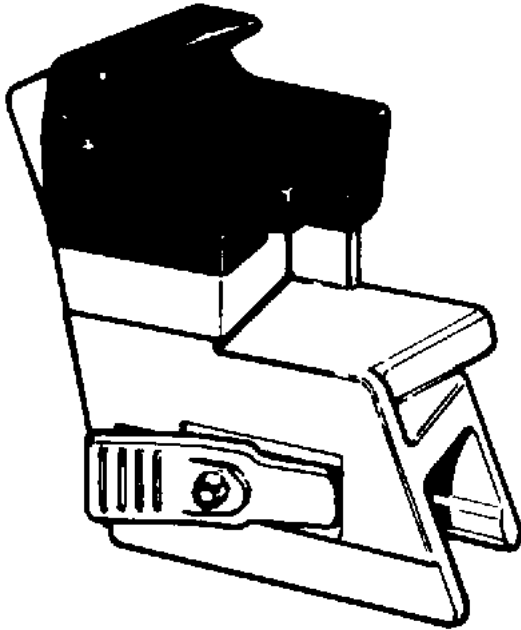

Figure 5
- **Motorcycle Adapter** (Fig.5)
- **8" Wheel Adapter** (Fig.5)